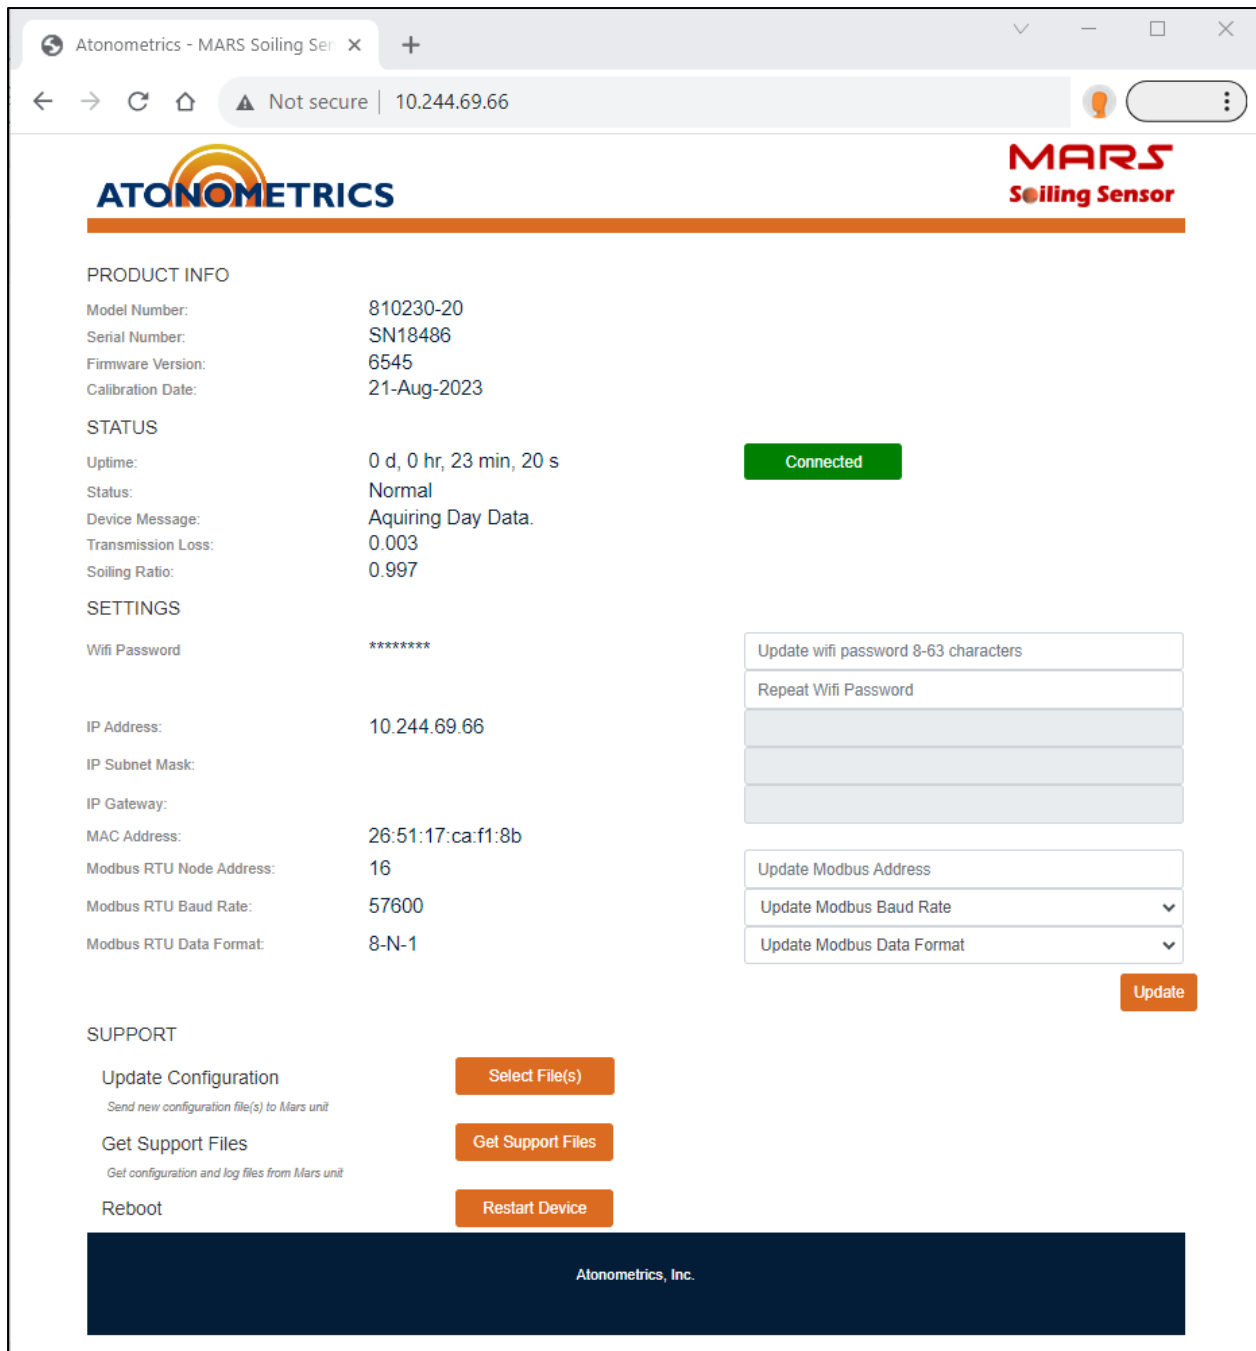

Figure 4-2: Mars web user interface with correct modbus settings
- You will then see the Mars™ web interface shown in **Figure 4-2**
The Mars Modbus settings must be configured to the Mars default values, matching **Table 4-1**. The correct input settings are displayed in **Figure 4-2**.
If the Modbus settings do not match the Modbus Settings in **Table 4-1**, enter the Modbus address, baud rate, and data format (16, 57600, 8-N-1) into their respective text boxes on the web interface shown in **Figure 4-2**. Then press the “Update” button.
Confirm that the correct settings are displayed under “SETTINGS” once the update has completed, as displayed in **Figure 4-2**.